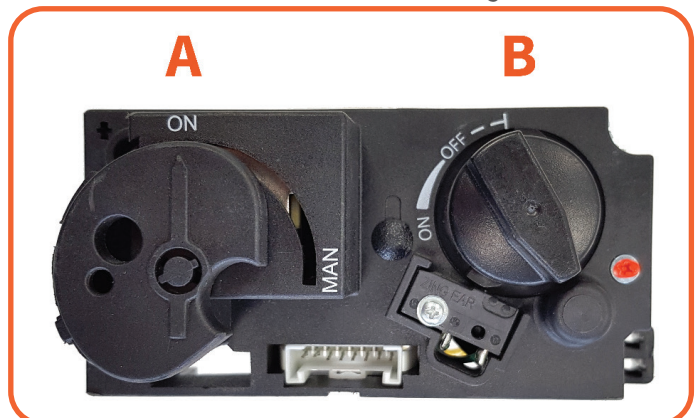

Figure 4.3 - Gas Block
Check that the control knob (A) is in the ON position (Fig 4.3). Press the button on/off button of your remote control and continue to hold down (3 to 5 sec.) until you hear two short beeps.
After starting the pilot, knob (B) will automatically rotate counter clockwise and the main burner will start burning (Fig 4.3). Always wait 5 minutes after killing the pilot light before you start the pilot flame again.